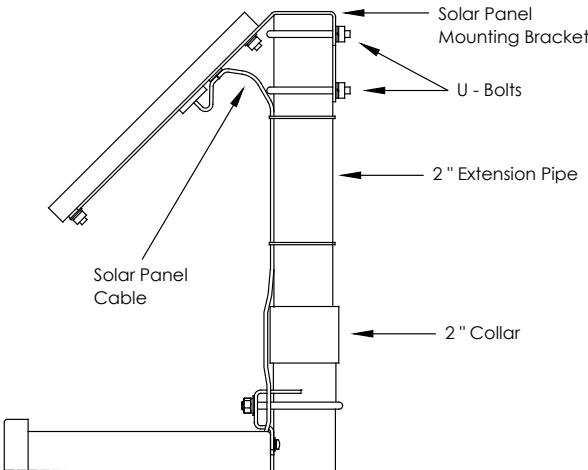

Fig. 10: Solar panel mounting
1. Attach 2-inch pipe collar and pipe extension to the top end of the OEU mounting pipe or install mounting pipe (Fig. 10).
After installation of the G4 EX, and with the communications path complete, the user needs to enter the appropriate communication parameters. In most instances, the G4 EX was shipped with COMM 1 set up for Totalflow (TF) Remote Protocol. If not, select the protocol using the Entry mode within PCCU (Figure 10). The protocol must be selected first for the appropriate communication parameters to be displayed. A blinking telephone poll symbol “†” in the annunciator position A8 (default) indicates that the COMM 1 port is active. The symbol may not be visible, if the baud rate is above 2400. See the Alarms and Status Codes section for a full description of the alarm characters, locations and descriptions.